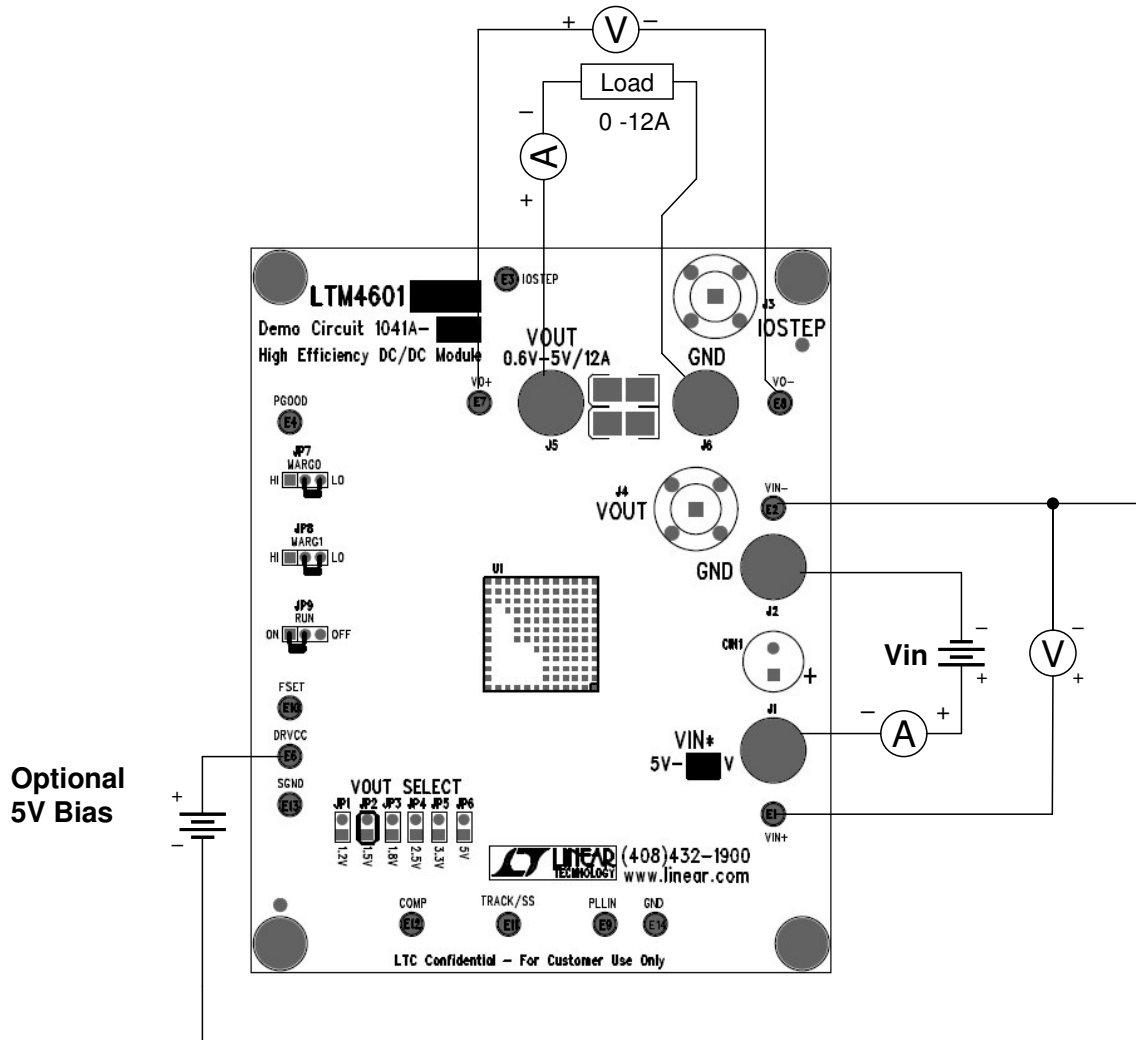

Figure 1. Test Setup of DC1041A-A (DRVCC Bias Supply is Optional)
Demonstration circuit DC1041A-A is easy to set up to evaluate the performance of the LTM4601EV. Please refer to Figure 1 for proper measurement equipment setup and follow the procedure below:
- With power off, connect the input power supply, load and meters as shown in Figure 1.